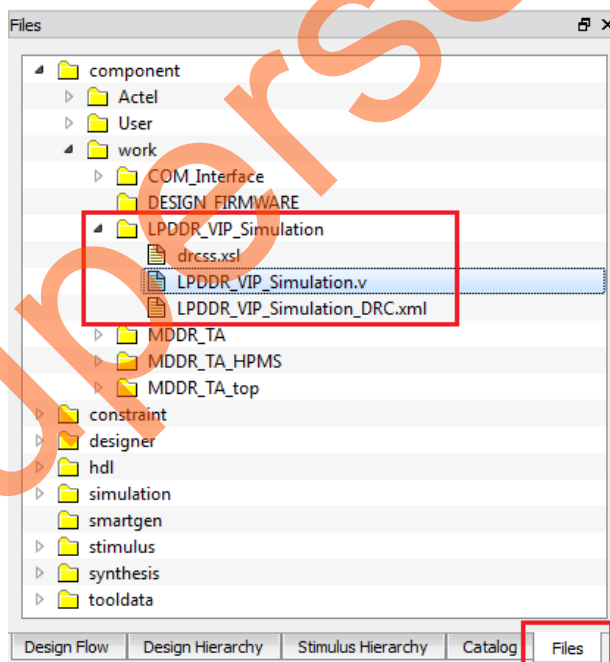

Figure 12 • SmartDesign Generated Testbench File
6. Click the **Files** tab. Figure 12 shows the folder structure in **Files** window.
8. Double-click **LPDDR_VIP_Simulation.v** to open the generated SmartDesign testbench file. Figure 12 shows the SmartDesign generated testbench file.